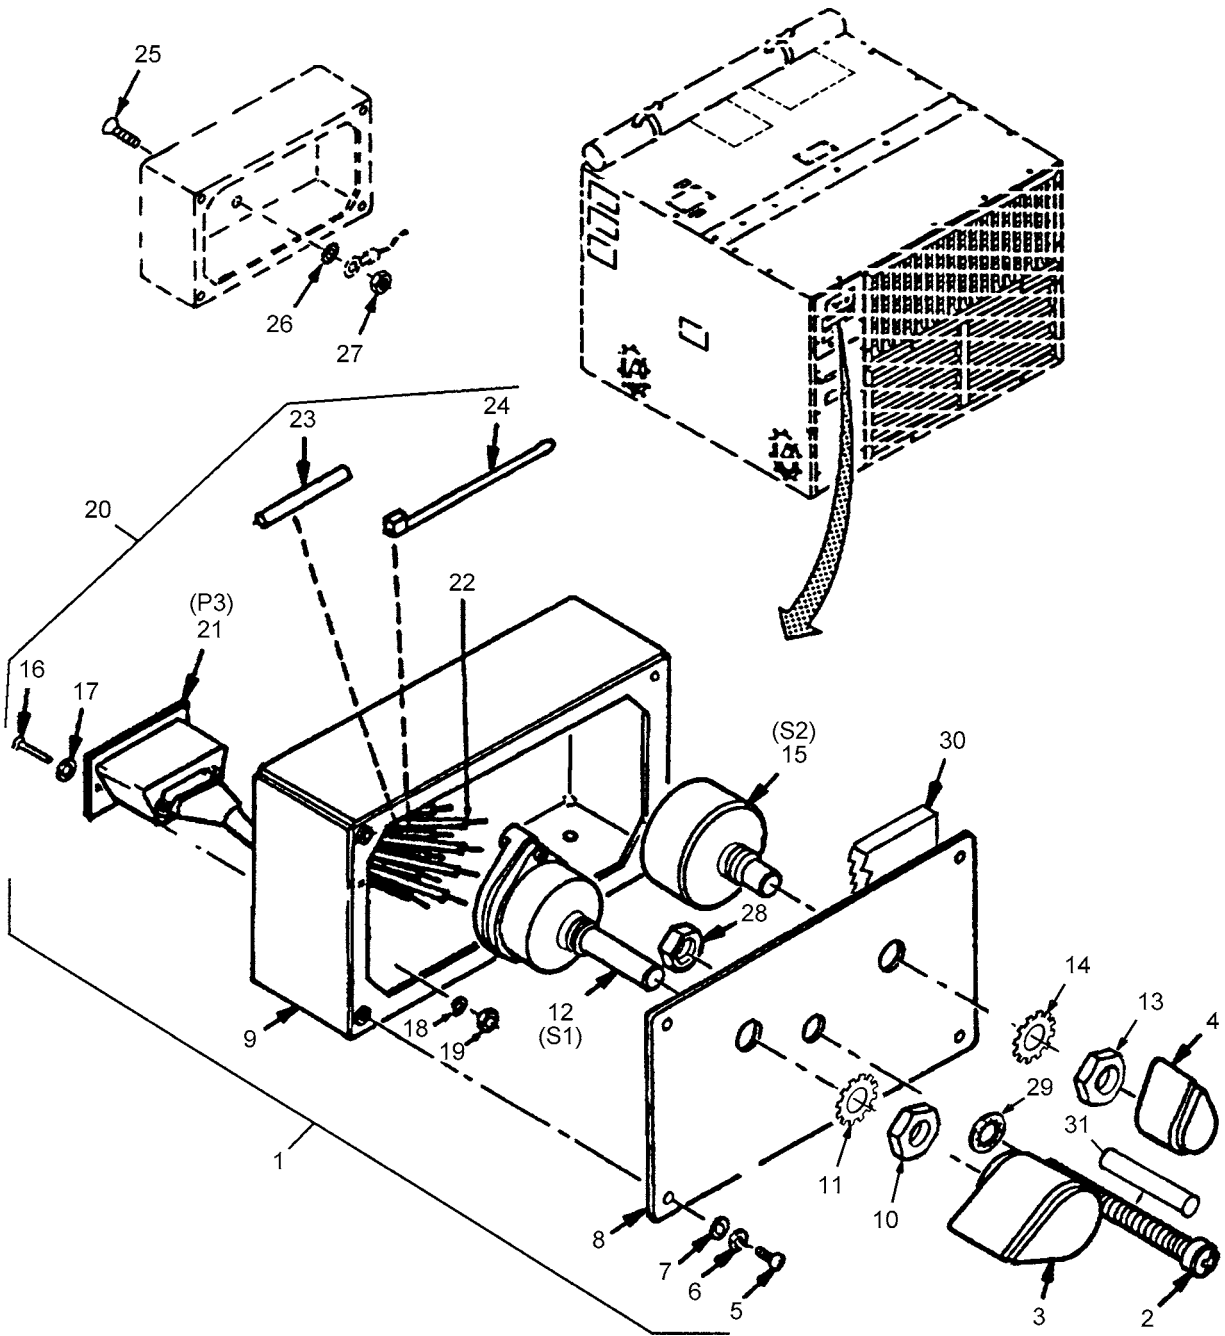

Figure 3. Remote Control Module – Exploded View
**Mode Selector Switch S1(12) (Refer to Exploded View Figure 3)**
1. Ensure temperature selector switch (S2) (15) is in WARMER position.
DISASSEMBLY (Refer to Exploded View Figure 3)
1. Loosen setscrew on knob (3) and remove knob from mode selector switch (12).
2. Loosen setscrew on knob (4) and remove knob from potentiometer (15).
3. Remove four screws (5), four flat washers (7), and four lock washers (6), to open control box (9) and control panel (8). Be careful of the wiring.
4. Remove mode selector switch (12) and potentiometer (15) from control panel (8) by removing nuts (10) and (13) and lockwashers (11) and (14).
5. If to be replaced after inspection and test, tag and disconnect wires (22) from defective mode selector switch (12) and potentiometer (15).
**DISASSEMBLY (Refer to Exploded View Figure 3) - Continued**
6. Remove two nuts (19), two flat washers (18), two lock washers (17) and two screws (16), and connector P3 (21) from control box (9).
7. Remove nut (27) to release ground wire. Remove wire ties (24) as required.
8. Leave insulation (30) and flexible tubing (23) and (31) in place unless damaged, if damaged replace.
9. Leave stop nut (28) and lockwasher (29) in place unless defective, if defective replace.